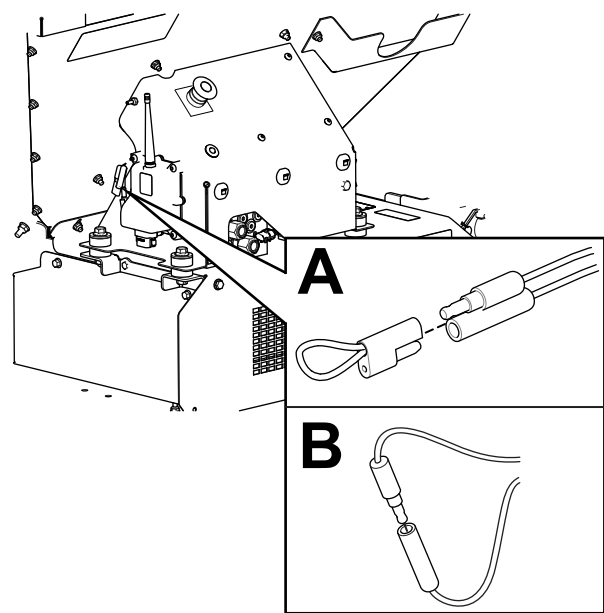

Figure 64
2. Pull the tethered cap off the 2 diagnostic shunt connectors (Figure 64, A).
3. Connect the diagnostic shunt connectors together (Figure 64, B).
2. Disconnect the diagnostic shunt connectors (Figure 64, B).
3. Push the tethered cap onto the 2 diagnostic shunt connectors (Figure 64, A).